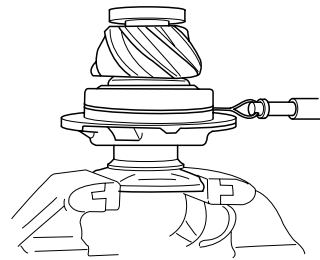

Fig 1.
- 2) Fix the bearing cage assembly by means of the method as given in Fig.1 or 2. Jaw vice method: Use a jaw vice to clamp the bearing saddle assembly (See Fig.1. Use flange nut to fasten the flange. See the tightening torque table for the tightening torque of the flange nut.) Holding down method: By means of continuous force, use pressing sleeve to hold down the inner race of outer bearing.